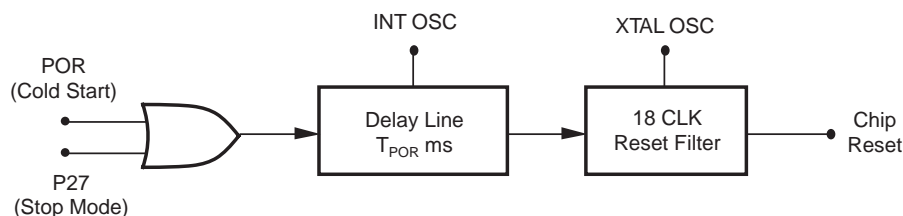

Figure 11. Internal Reset Configuration
**RESET.** This function is accomplished by means of a Power-On Reset or a Watch-Dog Timer Reset. Upon power-up, the Power-On Reset circuit waits for  $T_{POR}$  ms, plus 18 clock cycles, then starts program execution at address 000C (Hex) (Figure 11). The control registers' reset value is shown in Table 4.